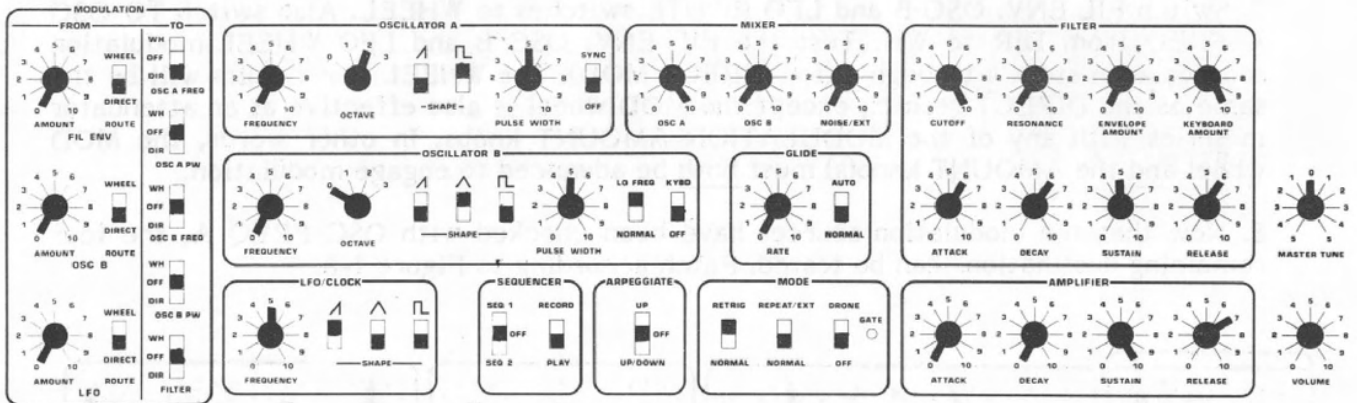

Figure 1-7
1. Patch according to Figure 1-7. (AMPLIFIER RELEASE must be greater than FILTER RELEASE to hear the complete filter envelope.)
6. If used, switch DRONE OFF. Play slowly while adjusting MOD FIL ENV AMOUNT knob 0 - 10 to check the filter envelope as modulation source. The filter envelope has been patched in Figure 1-7 with 1-sec ATTACK, DECAY, and RELEASE times. Applying this envelope to OSC A FREQ gives a frequency sweep which rises for 1-sec, decays at the same rate to the sustain level while the key is held, then releases to the initial frequency at the same rate when the key is released. The range of the sweep is increased as you advance the FIL ENV AMOUNT knob. Return FIL ENV AMT to 0.